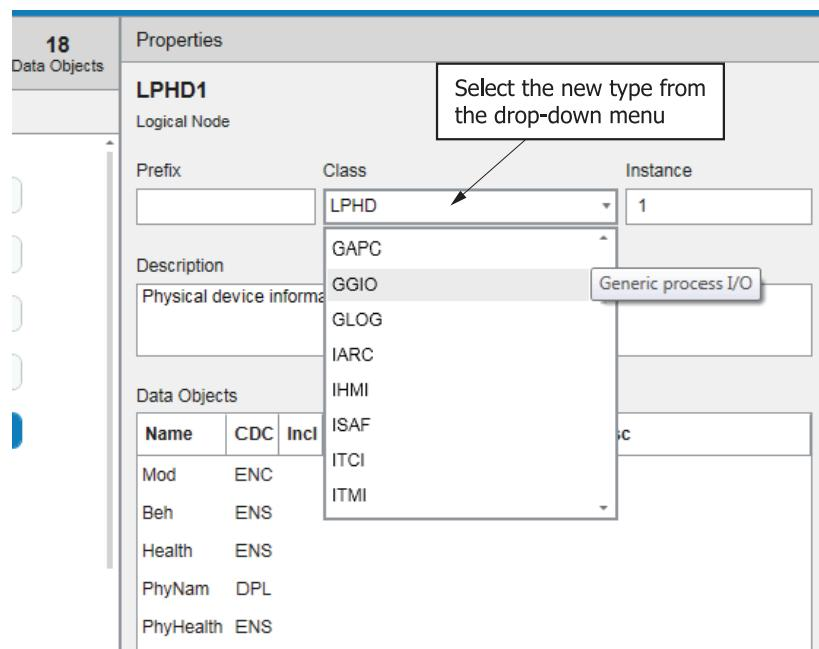

Figure 2.185 Changing the Logical Node Type
Step 7. Click the **Class** drop-down box to change the class of this logical node. For example, change it to a GGIO type. See *Figure 2.185*.